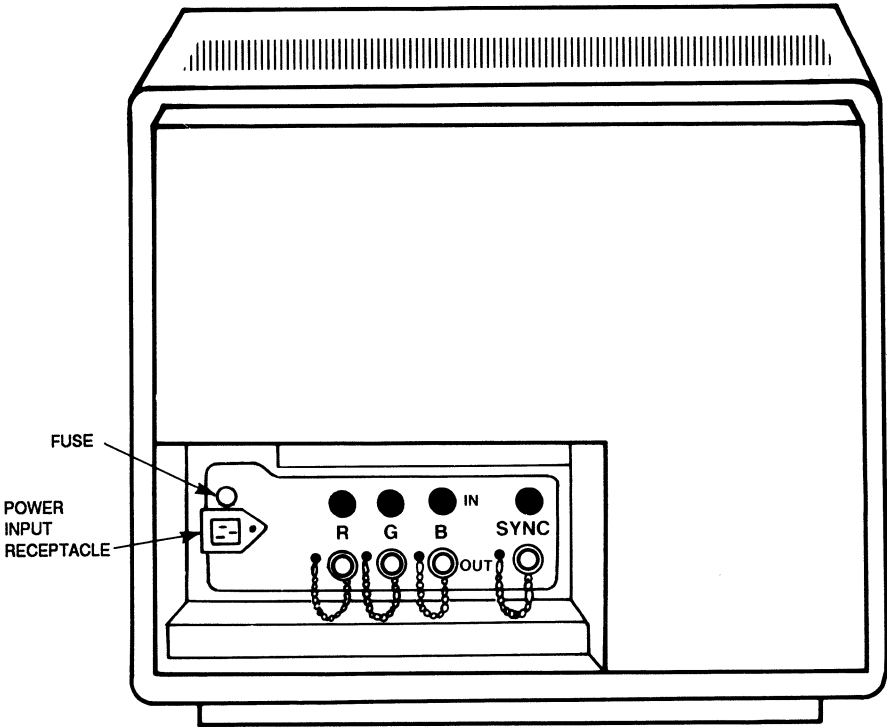

Figure A-1: Monitor Back Panel for Nineteen-inch 60-Hz Monitor
The 60-Hz non-interlaced monitors have a monitor control panel on the lower right front. On the back of the monitors are several ports for receiving video signals and a power socket. These monitors are available in two sizes, nineteen-inch and fifteen-inch (see Figures A-1 and A-2).
The monitor back panel has several connectors for the cables that connect the monitor to the cabinet (see Figures A-1, A-2, and A-3).
- The fuse protects the circuit. See the information printed next to the fuse for type and rating requirements. (See Figure A-1.)
- The power input receptacle attaches to the power cable. See the information printed next to the receptacle for power requirements. (See Figure A-1.)